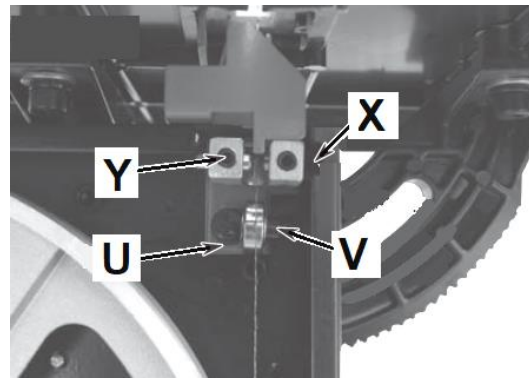

Fig 19
- Lower blade guides employ guide pins for side support and bearing for rear support (Fig 19).